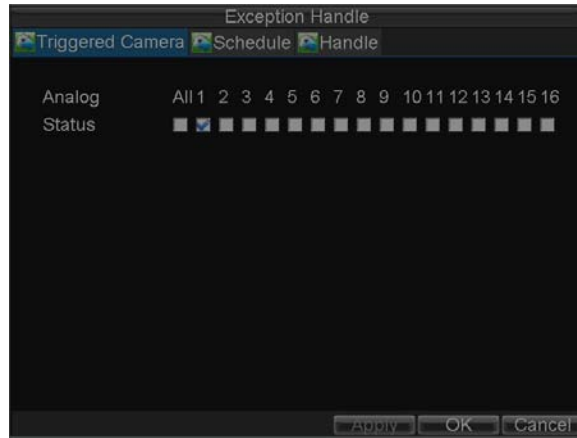

Figure 5. Triggered Camera Settings
8. Click the *Handle* button to enter the **Exception Handle** menu, shown in Figure5.